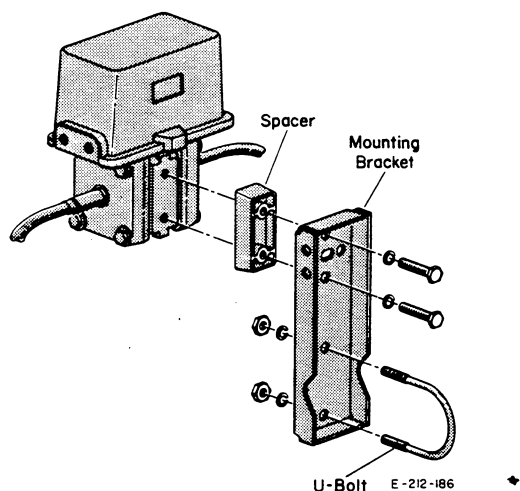

Figure 5 — Assembling Optional Mounting Bracket Kit, Accessory (146)
An optional mounting bracket kit, Accessory (146), provides a bracket, U-bolts, spacer, and fasteners, Figure 5. The bracket is suitable for either pipe or surface mounting. For pipe mounting, the bracket accepts 1-1/4 through 2-inch pipe and can be positioned for use on horizontal or vertical pipes, Figure 4.